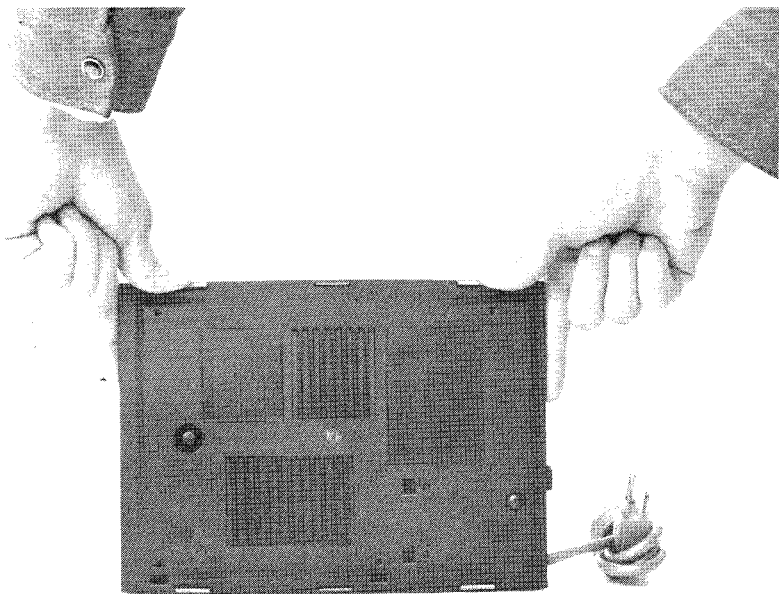

Figure 2-12
- 2) Using your thumbs, press the tabs toward the center of the unit (see Figure 2-12) to release the cover.